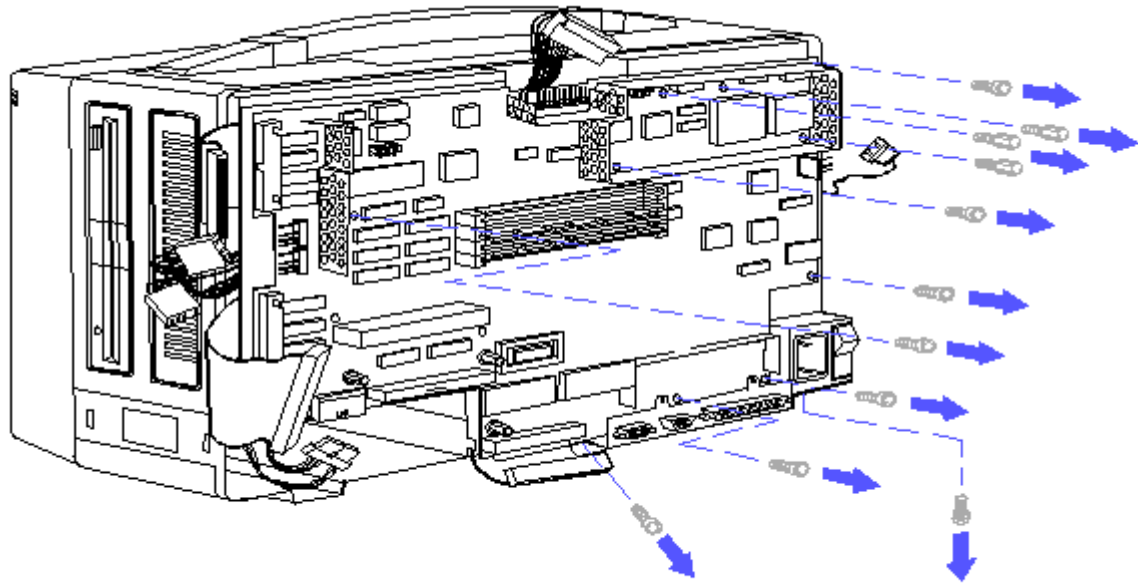

Figure 8-33. Removing System Board Screws
11. Remove the screws that secure the system board assembly to the main enclosure (Figure 8-33).